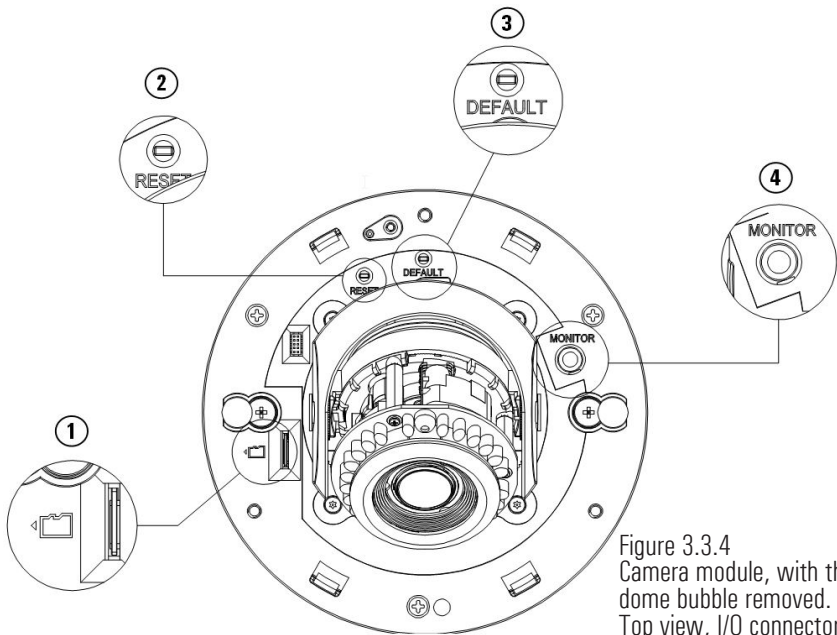

Figure 3.3.4
2. Insert micro SDHC card into Micro SD card slot on the camera module. *See Figure 3.3.4 on p. 9 for the slot location.*